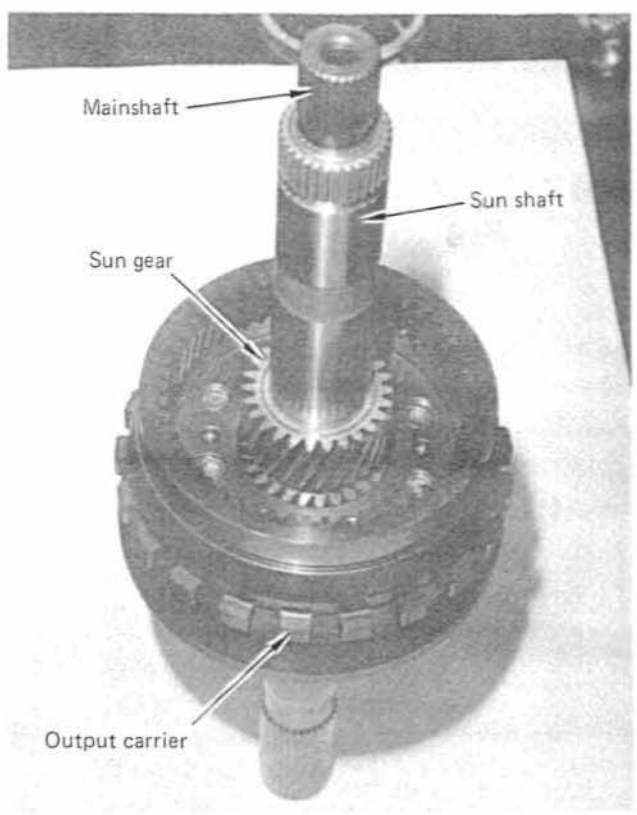

FIGURE 26
STEP 2. Remove the sun shaft and sun gear. (See Fig. 26)